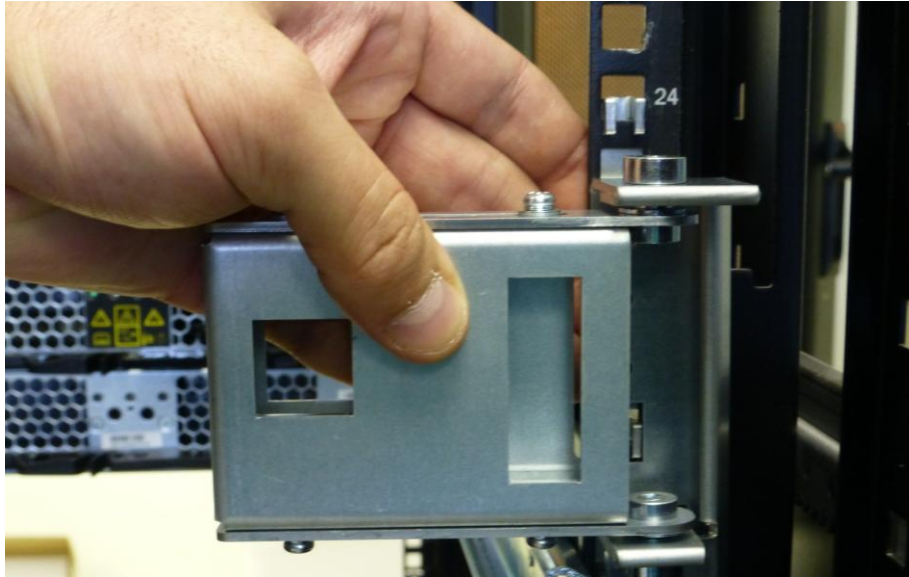

Figure 18. **Holding CMA Mounting Bracket on Rack**
2. Hold CMA bracket on rack (Figure 18).